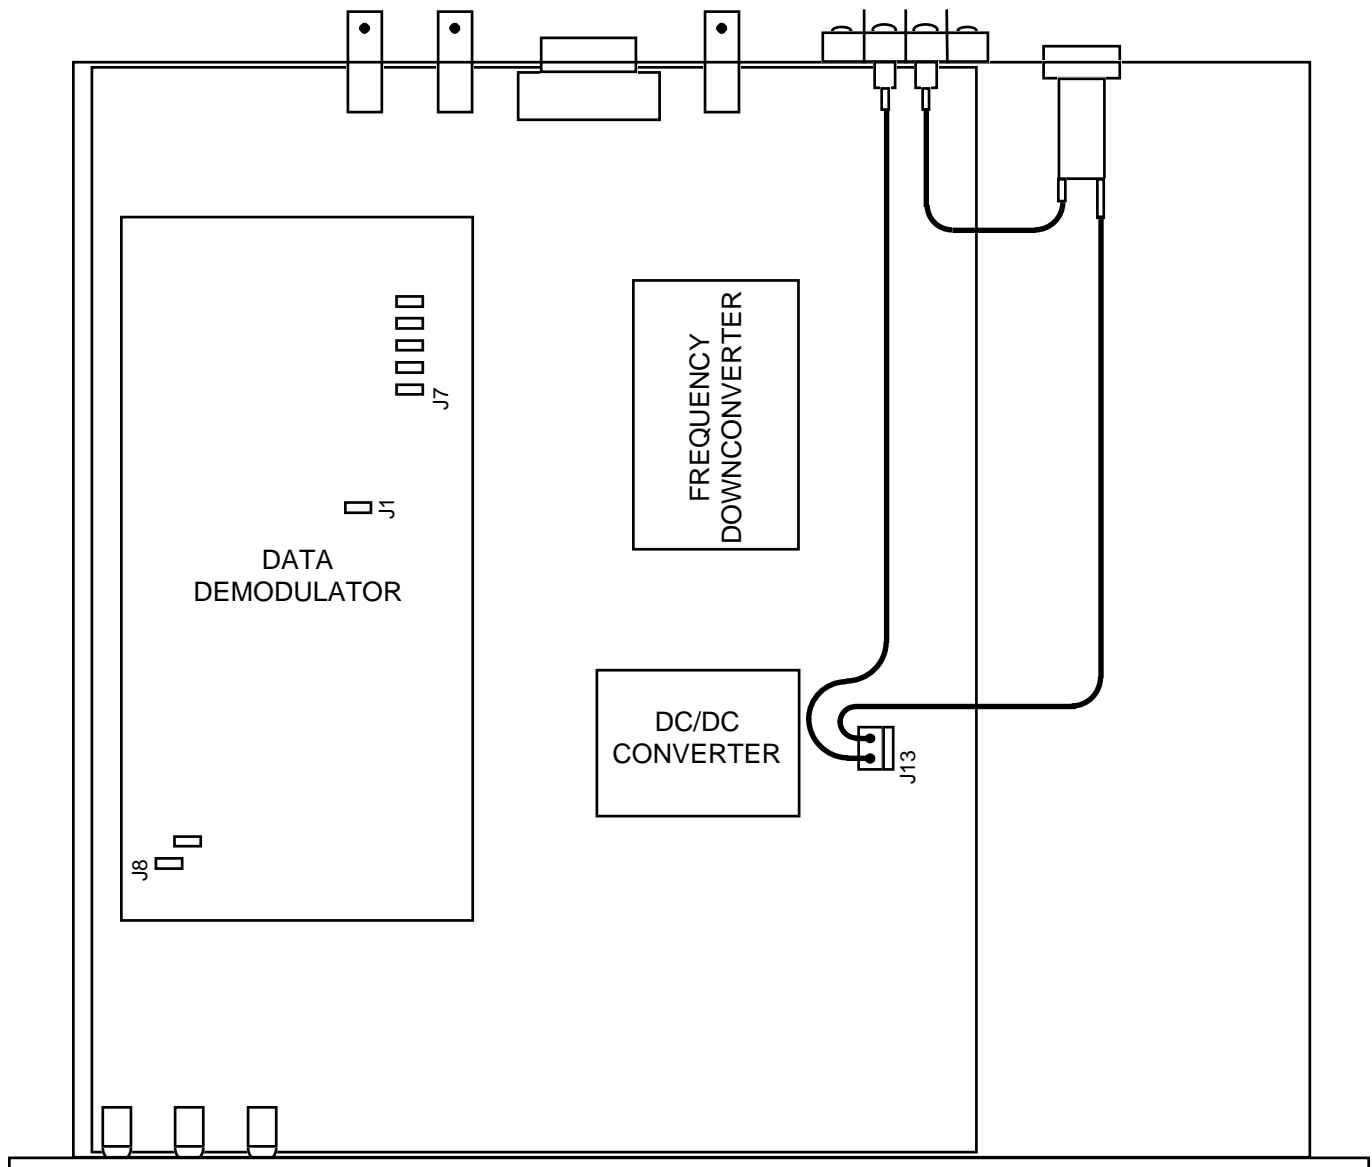
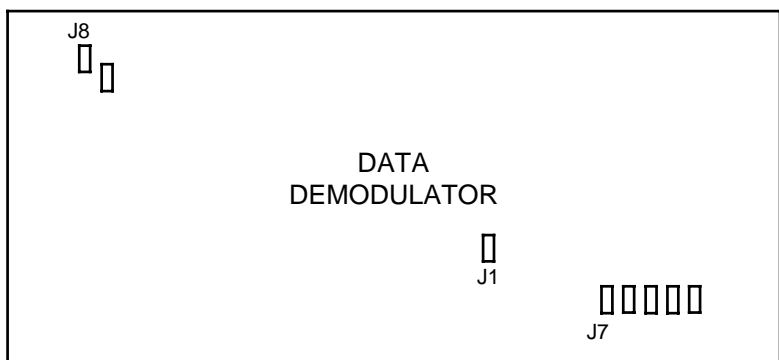

FIGURE 2.0 2711-70 Mechanical Assembly
FIGURE 2.2 Locations of Jumpers J1, J7, and J8
The 2711-70 consists of one PC Board containing a Data Demodulator module, a DC/DC Converter, a Frequency Downconverter module, and additional circuitry housed in a 1 RU (1 3/4 inch high) by 16 inch deep chassis. A separate, external +48VDC power source provides power for the assemblies. The 2711-70 can be secured to a rack using the 4 holes on the front panel. Figure 2.0 shows how the 2711-70 is assembled.
Table 2.2 combined with Figures 2.0 and 2.2 show the user selectable PCB controls/settings available via jumpers on the Data Demodulator module. NOTE: Jumpers J3, J4, J5, and J6 should always be in the non-dotted position for RS-422.
2. Set the Data Demodulator jumpers J1, J7, and J8 to the desired settings (Table 2.2, Figure 2.0, Figure 2.2).